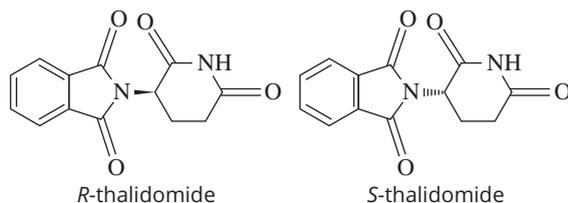

FIGURE 15.4.10 *R*-thalidomide can be used to relieve morning sickness, but *S*-thalidomide can lead to significant birth deformities.
- **Thalidomide:** Thalidomide was released on the world market in 1957 as a drug for treating morning sickness. It became evident over the following years that thalidomide was associated with severe birth defects in babies, such as missing limbs. It is now understood that the *R*-enantiomer is effective in treating morning sickness, but the *S*-enantiomer can lead to birth defects. The structures are shown in Figure 15.4.10.